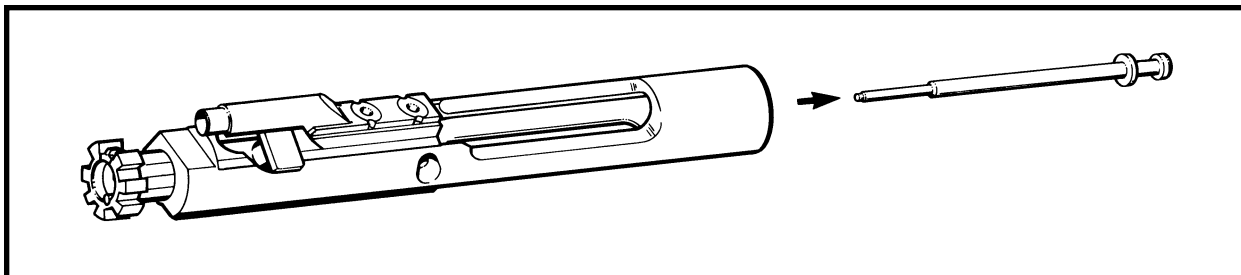

Figure 3-2-29 Removing the Firing Pin
- b. Remove the firing pin from the rear of the bolt carrier. See Figure 3-2-29;